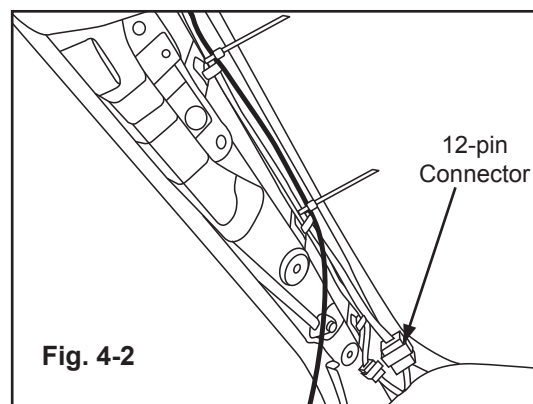

Fig. 4-2
b) Disconnect the 12-pin connector. (Fig. 4-2)